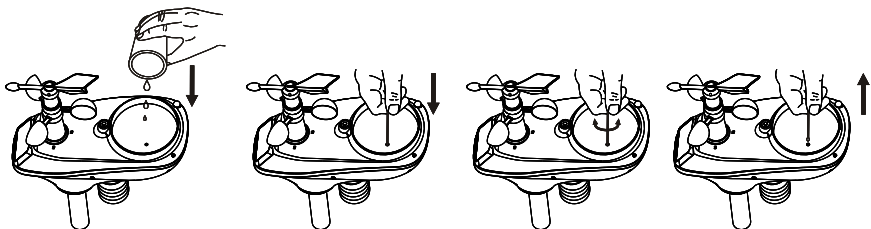

Figure 40
1. Clean the rain gauge once every 3 months as follows. Reference Figure 40.